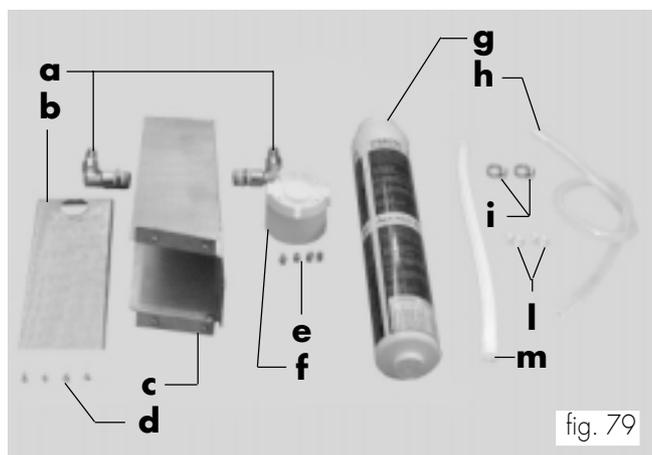
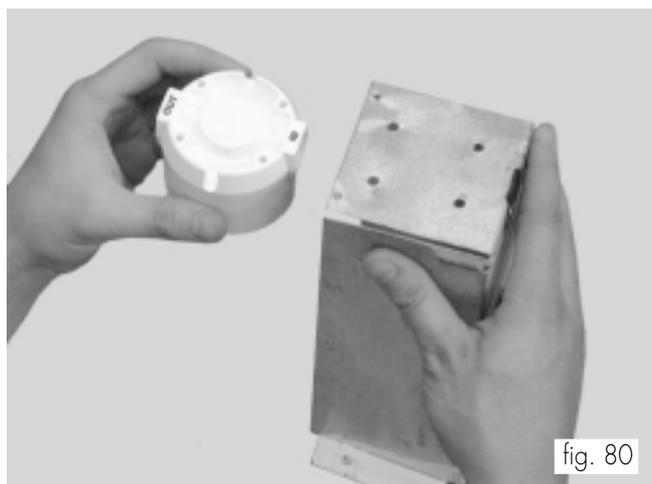
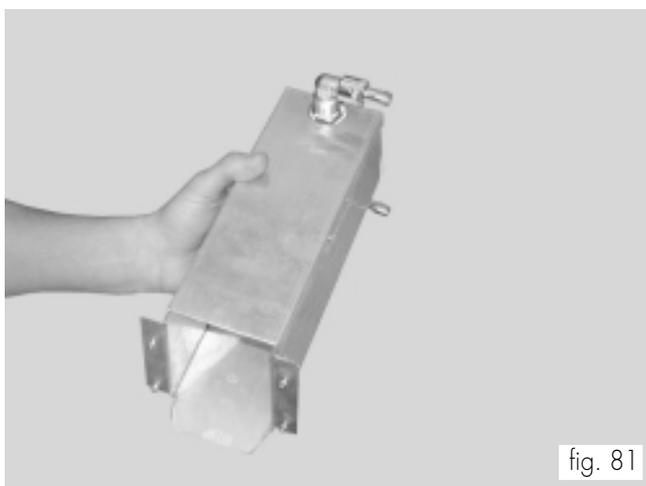
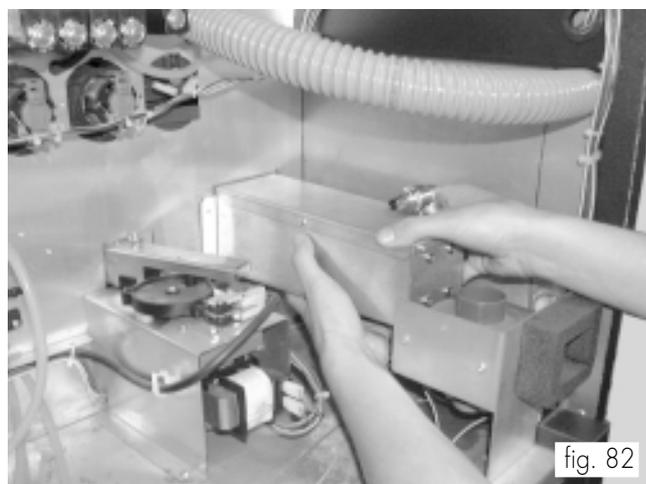

fig. 79
fig. 80
fig. 81
fig. 82
Assembly kit (fig. 79)
- Insert the head (ref. f, fig. 79) into the support (ref. c, fig. 79) carefully following the required sense (fig. 80). Fasten the head to the support by means of the 4 screws (ref. e, fig. 79).
- Assemble the cover (ref. b, fig. 79) on the support (ref. c, fig. 79) and tighten it by using the 4 screws (ref. d, fig. 79). Then screw the 2 fittings (ref. a, fig. 79) inside the holes following the right orientation, as shown in fig. 81.
- Assemble the cartridge support set (fig. 81) and fasten it by means of the 4 screws (fig. 82 e 83)
Insert the clamp (ref. i, fig. 79) into the pipe (ref. m, fig. 79) and the latter into the pump fitting. Tighten the clamp screw (fig. 84).
Insert the clamp (ref. i, fig. 79) into the pipe (ref. m, fig. 79) and the latter into the water inlet solenoid valve fitting. Tighten the clamp screw (fig. 85).
- Insert the other clamp (ref. i, fig. 79) into the pipe free end (ref. m, fig. 79) and the latter into the lower fitting of the cartridge support set (ref. a, fig. 79). Tighten the clamp screw (fig. 86).
- Insert the spring (ref. i, fig. 79) into the pipe (ref. m, fig. 79) and the latter into the air break fitting (fig. 87).
- Insert the other spring (ref. l, fig. 79) into the pipe free end (ref. h, fig. 79) and the latter (fig. 88) into the upper fitting of the cartridge support set (ref. a, fig. 79).
- Insert the cartridge and tighten it (ref. g, fig. 79) clockwise (fig. 90).